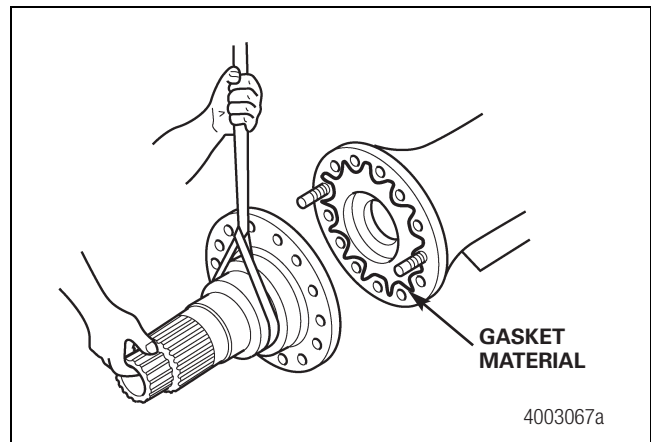
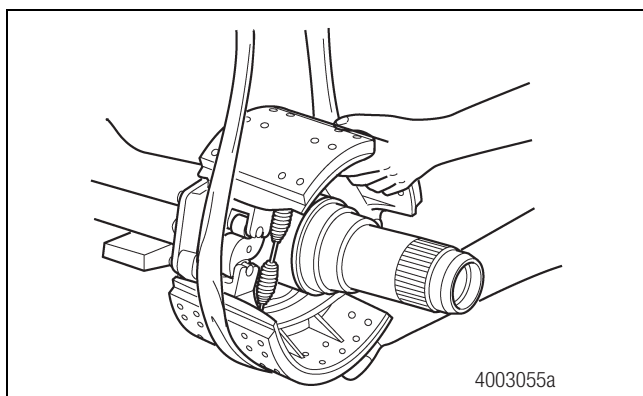

Figure 3.32
Figure 3.33
3. Apply a bead of Loctite® 5699 adhesive sealant, part number 2297-A-7021, or ThreeBond 1216E grey silicone RTV liquid gasket material under each capscrew hole on the housing flange. The bead must go around the inside of each capscrew hole. Figure 3.32.
4. Use a lifting device to install the spindle and brake assembly. Figure 3.32 and Figure 3.33.